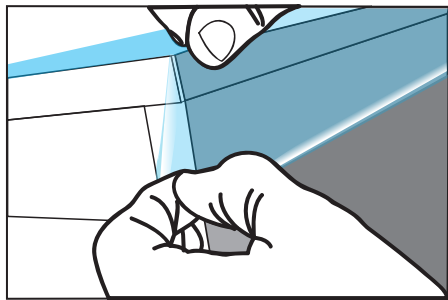

Figure 07
- › Apply the film to the second edge and wrap the corner with a slight overlap of both films. (FIG. 07)